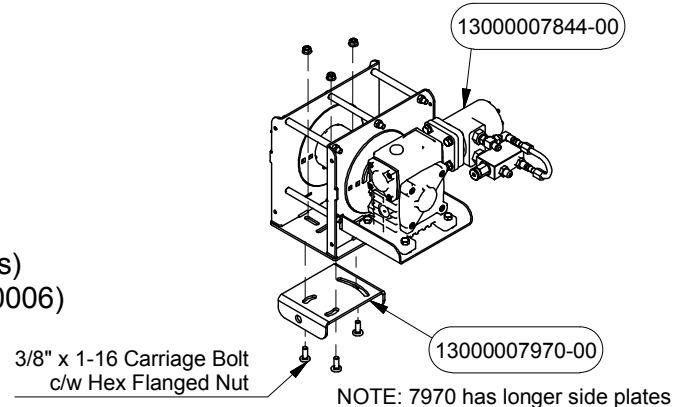

Figure 7
1. Attach Hydraulic Winch (13000007844-00) to Winch Top Mount Bracket (13000007970-00) (longer side plates) using 3 Carriage Bolts (13070906016SS) and 3 nuts (13073100006) as shown in Figure 7